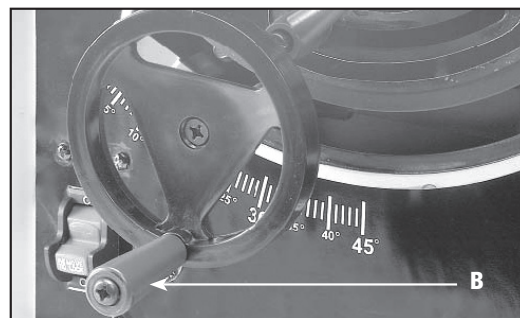

Fig. 29
To adjust the height of the saw blade, turn the handwheel (A) Fig. 29. Turning the handwheel clockwise lowers the blade and turning the handwheel counterclockwise raises the blade.